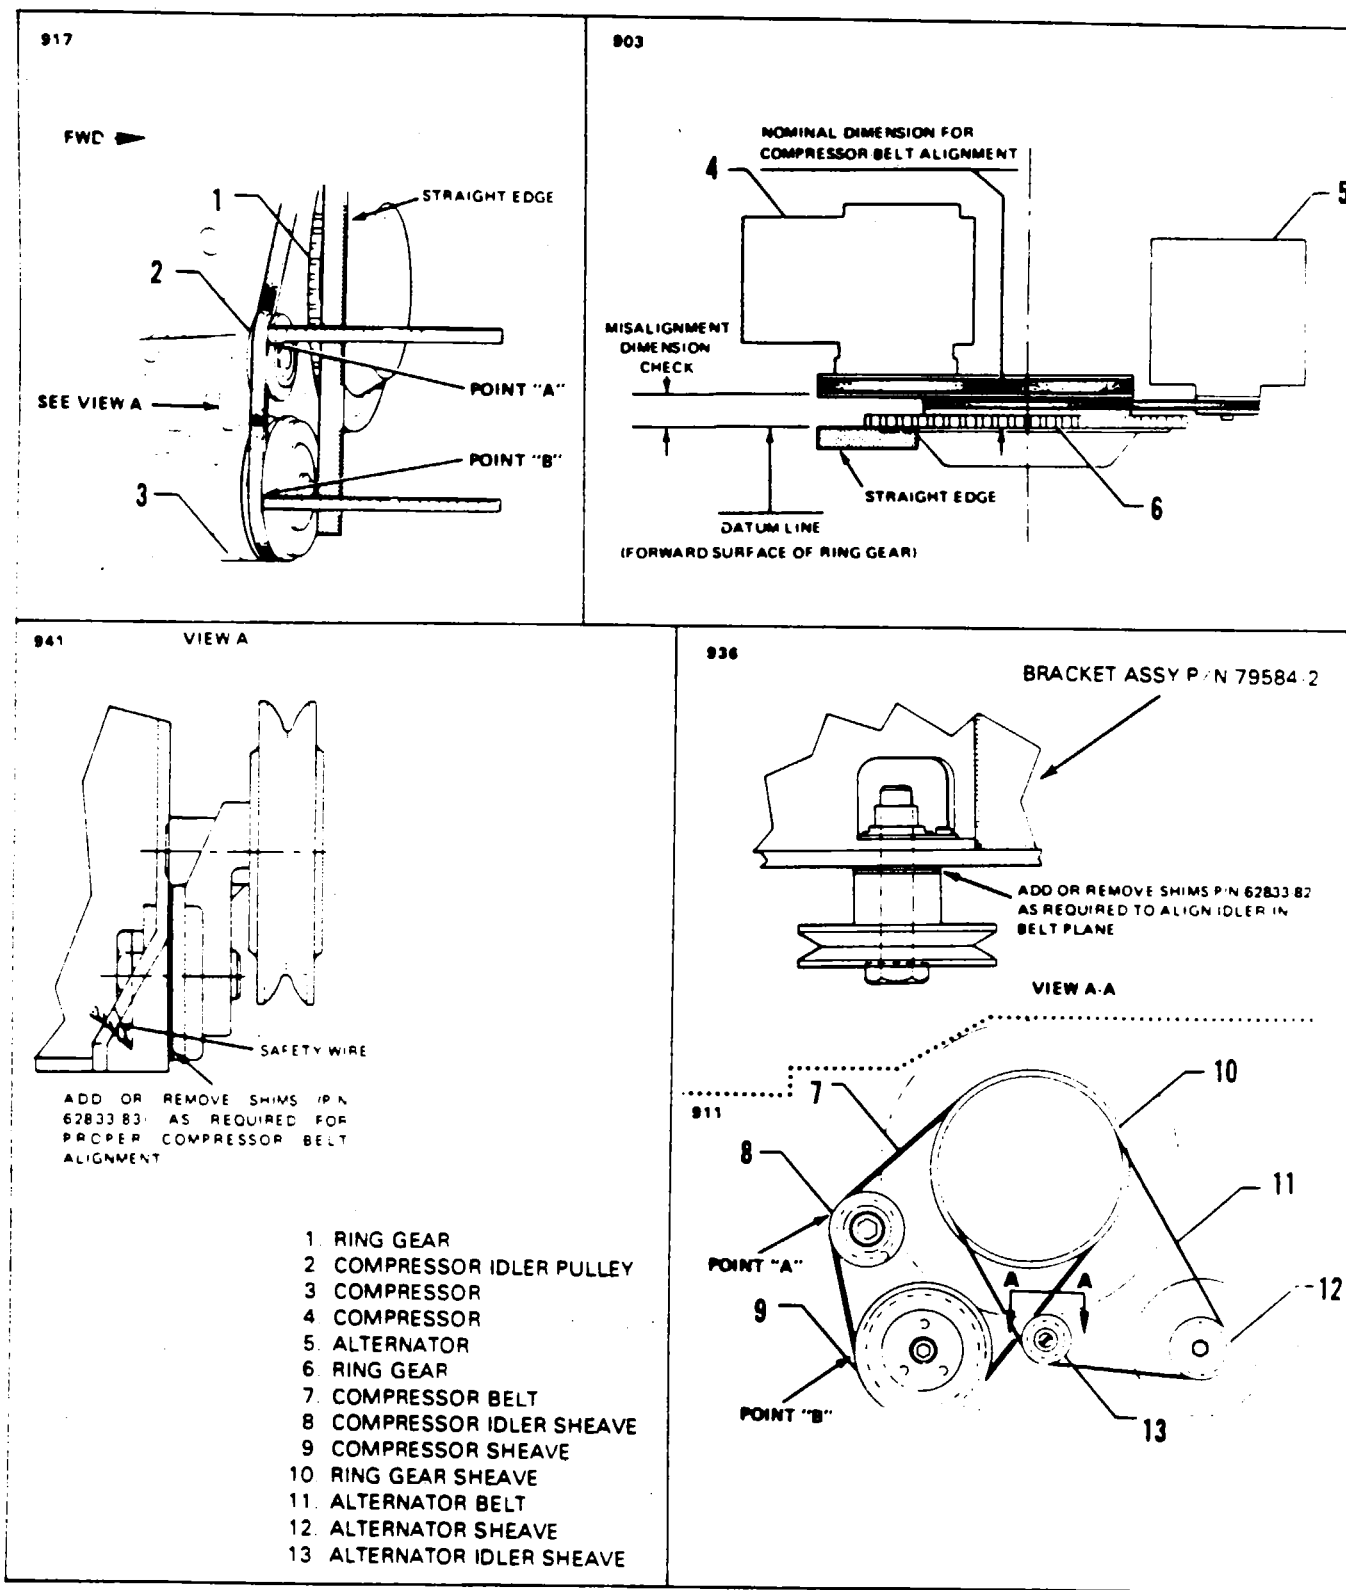

Figure 21-12. Compressor and Alternator Belt Installation
REPLACEMENT OF COMPRESSOR DRIVE BELT. (Refer to Figure 21-12.)
4. Route the belt to the proper pulley sheave as shown in Figure 21-12.
- B. Obtain a basic measurement from the top of the ring gear by measuring the width of the starter ring gear plus the dimension from the forward machined surface of the ring gear to the forward edge of the compressor drive belt. (Refer to Figure 21-12.)
6. Compressor Belt Alignment: (Refer to Figure 21-12.)
7. Alternator Belt Alignment: (Refer to Figure 21-12.)